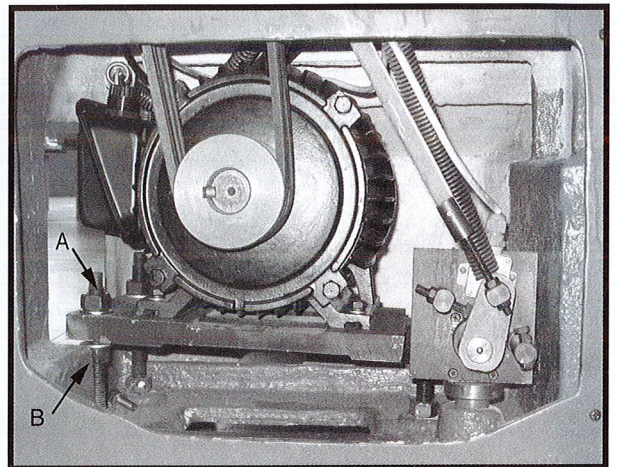

Fig.20
3. Loosen hex nut (A, Fig.20). Place scrap piece of wood under motor to act as lever. Lift motor up and block temporarily.
6. Tension belts by loosening nut (B, Fig.20) and tighten nut (A, Fig.20) until light finger pressure causes approximately 3/4" deflection on each belt.